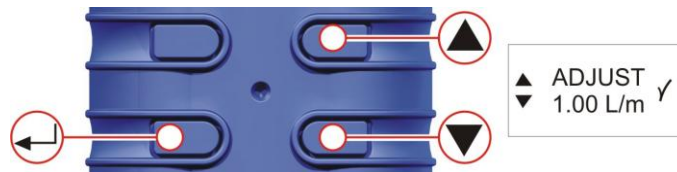

Figure 24 (Low Set) Adjust Screen
**J. CALIBRATION OF LOW SET POINT (Fig. 24)**